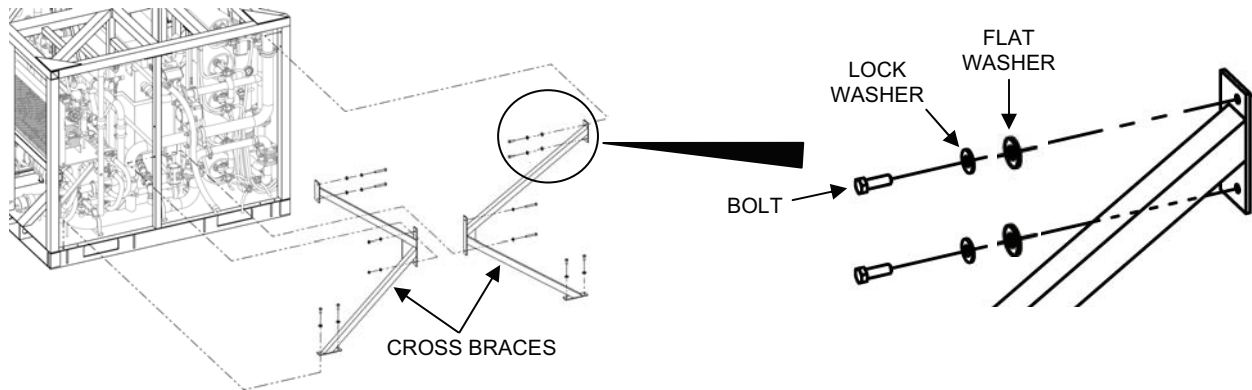

Figure 16. TWPS Frame Cross Brace Installation – Right End.
14. Reinstall the TWPS frame cross braces to the right end of the TWPS as follows (see Figure 16):